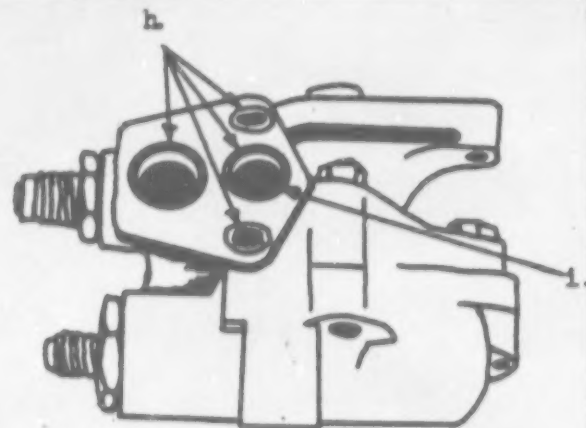

Figure 3
- STEP 9. Remove and discard the four "O" ring seals between the reservoir and pump body (Item h in Figure 3).
- STEP 10. Remove intake "O" ring seal retainer (Item i in Figure 3).